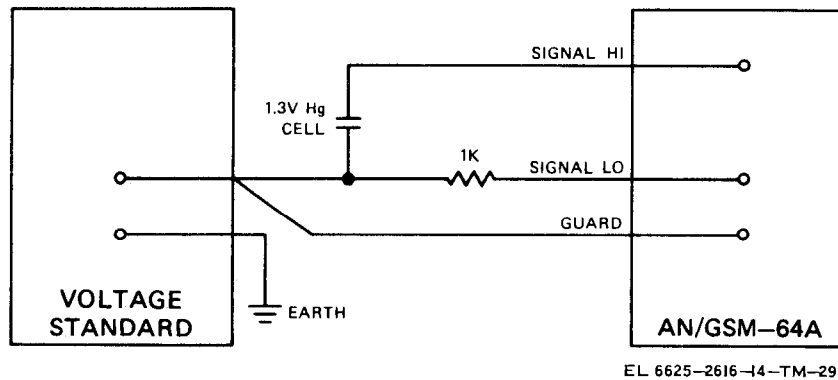

Figure 8-4. Connections for isolation test No. 1.
(1) Connect the equipment as shown in figure 8-4.
(2) All reference to switch settings refer to the AN/GSM-64A.